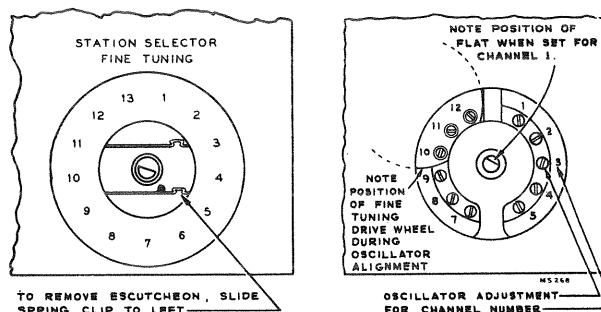

Figure 8—R-F Oscillator Adjustments
**CHECK OF R-F OSCILLATOR ADJUSTMENTS**—Tune in all available Television Stations to see if the receiver r-f oscillator is adjusted to the proper frequency on these channels. If adjustments are required, these should be made by the method outlined in the alignment procedure of the Service Data for Model 648PTK. The adjustments for channels 1 through 5 and 7 through 12 are available from the front of the cabinet by removing the station selector escutcheon as shown in Figure 8. Adjustments for channels 6 and 13 are under the chassis. Observe the picture for detail, for proper interlacing and for the presence of interference or reflections.